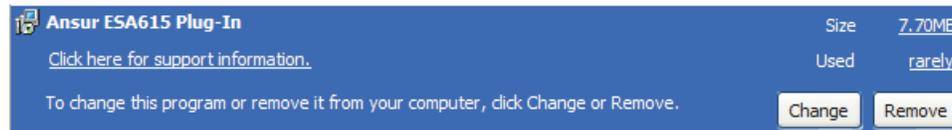

Figure 2-3. Remove ESA615 Plug-In
3. With the entry highlighted, click the **Remove** button as shown in Figure 2-3.